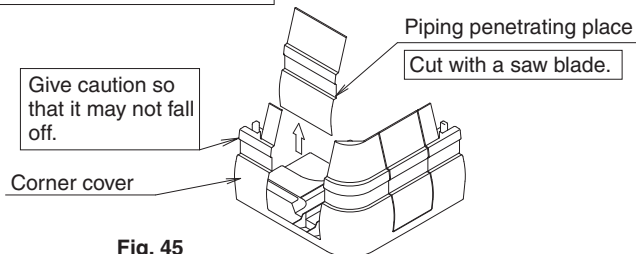

Fig. 45
- For backward and rightward piping outlet, cut the corner cover as shown in Fig. 45 and remove it.